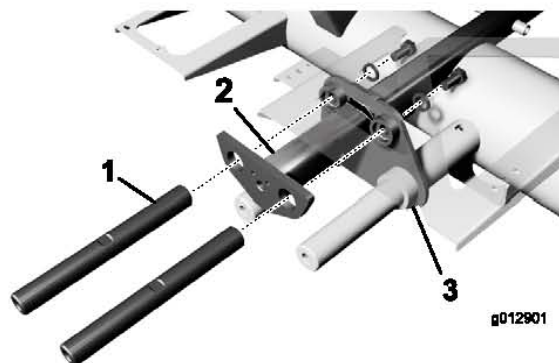

Figure 1
The pivot area for the #4 and #5 lift arms can fracture when the hardware is allowed to remain loose for an extended time. Ensuring the hardware remains tight has been the subject of previous service bulletins. In rare instances where the hardware is allowed to run loose, a twisting force is applied to the support area and can lead to fractures of the pivot support area. (Figure 1)
3. Remove the (2) bolts and washers securing the lift cylinder pivot shafts to the lift plate (Figure 1). Remove the lift cylinder pivot shafts and the frame tube, if loose.